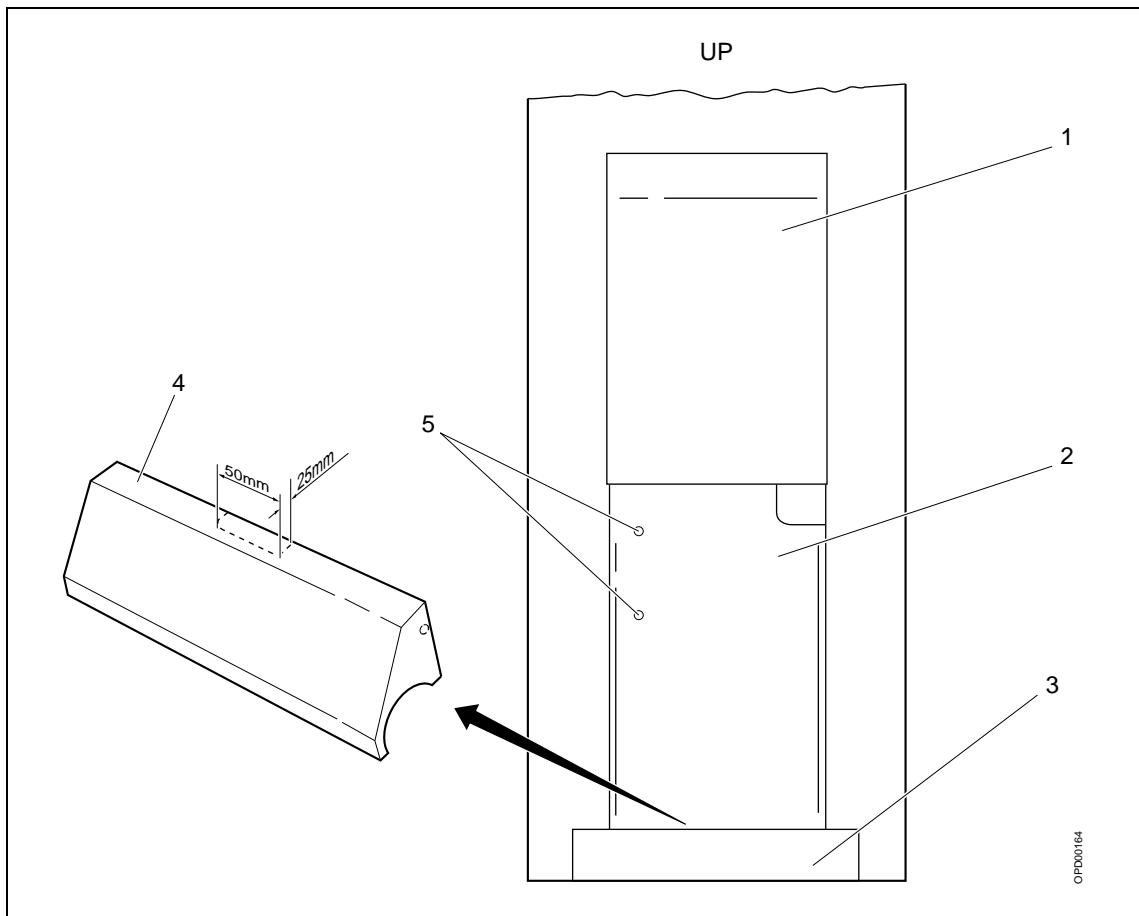

Fig. 8 Cable duct
Four cables are laid from the bottom of the biopsy controller in a cable duct to the cable outlet cover (3/Fig. 8). To install the cable duct on the rear side of the stand proceed as follows:
1. Attach the cable duct (2/Fig. 8) to the rear cover by removing the protective strips from the attached Velcro strips and place the duct flush with the biopsy controller (1/Fig. 8). Secure the cable duct to the two standoffs (5/Fig. 8) with the delivered screws and washers.
1. Cut an opening centrally on the cable outlet cover (4/Fig. 8). The opening should be approximately 50 x 25 mm.
2. Attach the supplied plastic strip around the opening of the cable outlet cover (4/Fig. 8).
3. Install the cable outlet cover (4/Fig. 8).